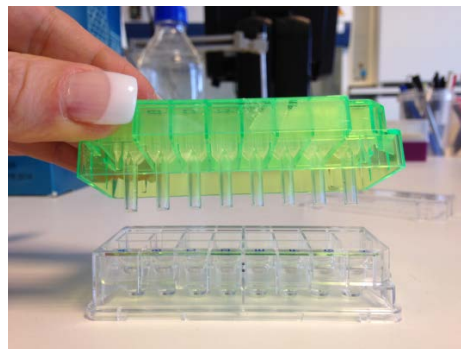
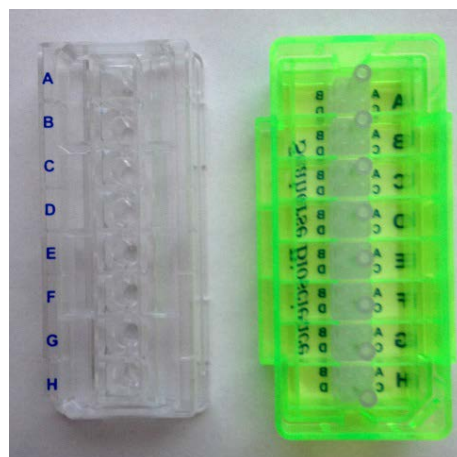

Figure 1 | Sensor cartridge being lifted from utility plate.
Figure 2 | Utility plate (left) next to upside down sensor cartridge (right).
2. Separate the utility plate and Sensor Cartridge (Figure 1). Place the sensor cartridge upside down on the lab bench (Figure 2).